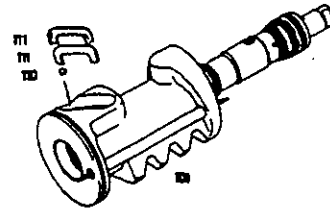

Fig.21
Insert worm (151) into the bore in piston (101) so that the balls (110) from the front piston bore for the recirculating pipe can be filled into the threaded bore of worm (151) (Fig.21).
Reinsert worm (151) into piston (100) so that the balls (110) selected earlier can be fitted and the recirculating tube (111) can be inserted in piston (100) (see Fig.21).